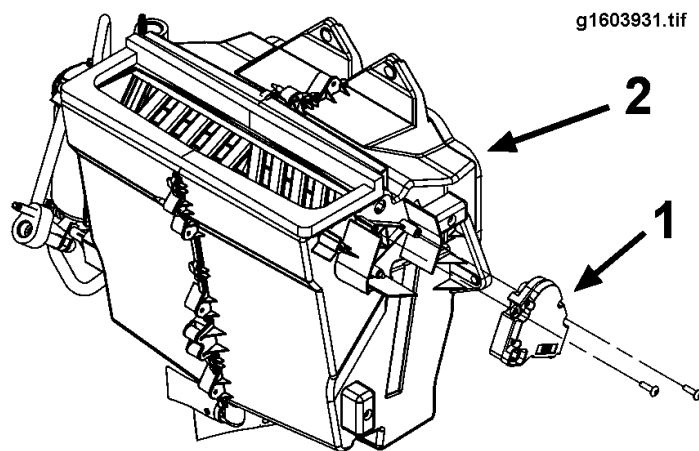

Figure 31 Actuator for Fresh/Recirc Air Door
NOTE – Refer to Figure 31 while performing the following Remove and Install procedures.
1. Disconnect wiring connector to actuator (1, Figure 31) for fresh/recirc air door.
1. Install actuator by rotating door until flats on door shaft align with actuator drive collar, then carefully slip the actuator (1, Figure 31) onto end of door shaft so that mounting holes are properly aligned, if possible. If actuator drive collar must be moved to allow alignment:
2. Secure actuator to evaporator housing (2) using two screws.